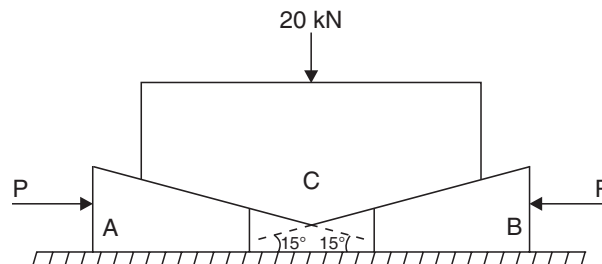

Fig. 6.28
**Example 6.14.** Two wedge blocks  $A$  and  $B$  are employed to raise a load of 20 kN resting on another block  $C$  by application of force  $P$  as shown in Fig. 6.28. Neglecting weights of the blocks and assuming co-efficient of friction  $\mu = 0.25$  for all the surfaces, determine the value of  $P$  for impending upward motion of block  $C$ .